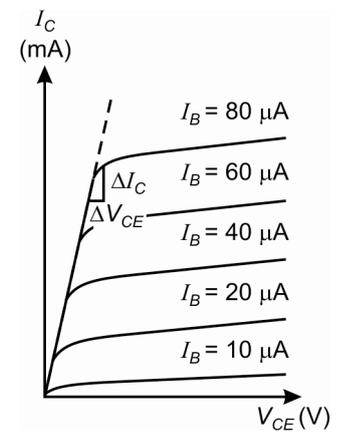

Fig.10.9: Typical output characteristics of a transistor
5. Plot V_{CE} versus I_C for different values of I_B . Draw smooth curves for each I_B . These are the output characteristics. Typical *output characteristics* of a transistor are shown in Fig. 10.9.